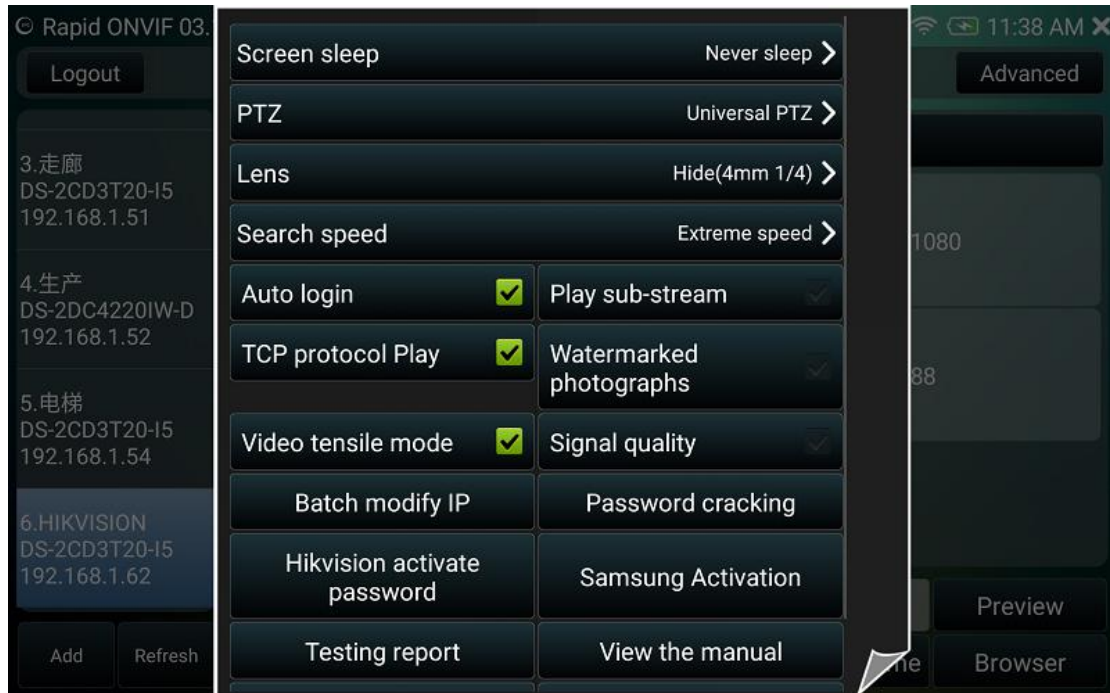

Figure 28
10) Advanced settings, you can set Auto-login, Play sub-stream, Watermarked photographs, Video tensile, Lens, etc, as shown in Figure 28